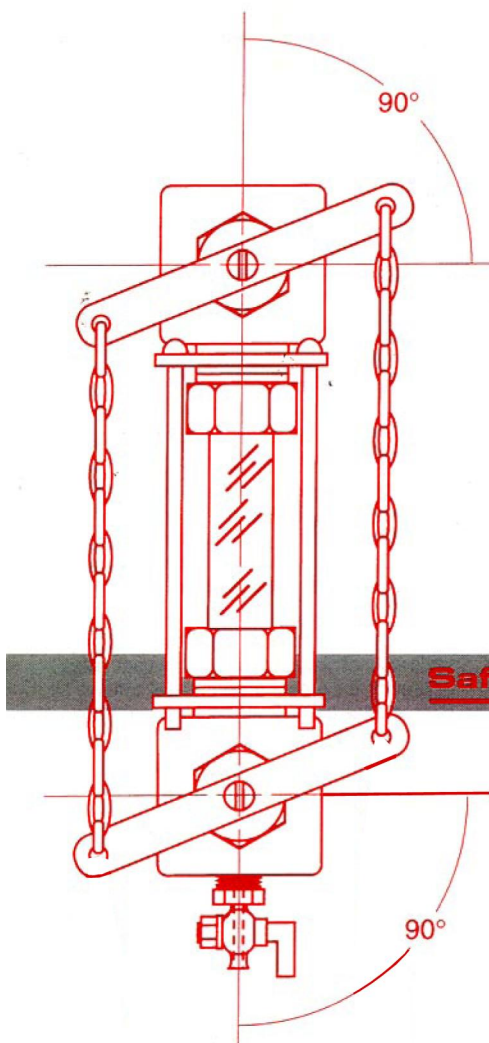

Fig. 1
- 12 Make sure that the valves are held rigidly to prevent misalignment when tightening the gage glass packing nuts. First hand tighten both upper and lower packing nuts. Then, with a wrench tighten 1/2 additional turn — enough to prevent leakage, but not so much that you hinder expansion and contraction. Check to make sure that both upper and lower valves are still in a true vertical alignment. (Refer to Figure 1.)